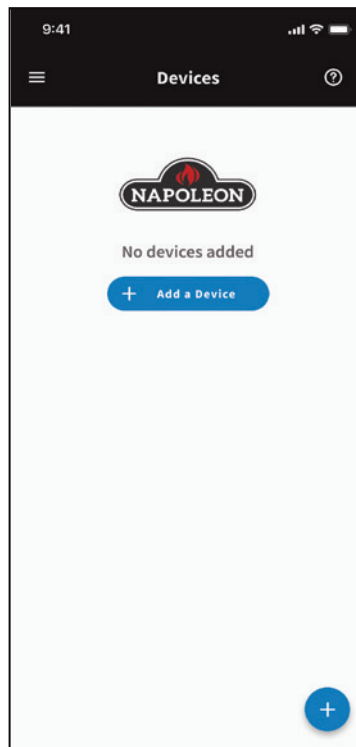

Fig. 27
- c. Select “Add Device” and accept permissions (**Fig. 27 & 28**).